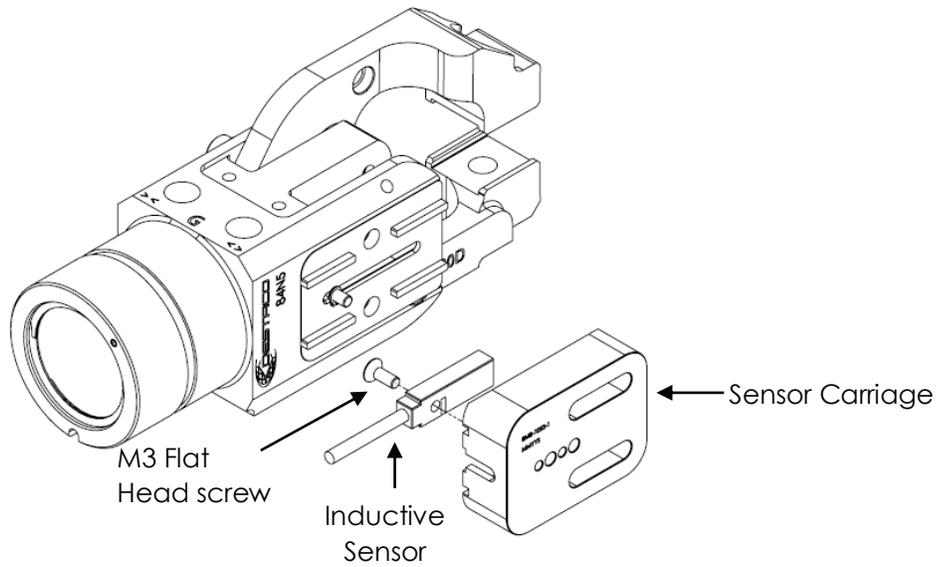

Fig.25
6. Mount the Inductive Sensor to Sensor Carriage with M3 Flat Head Screw (see Fig.25)